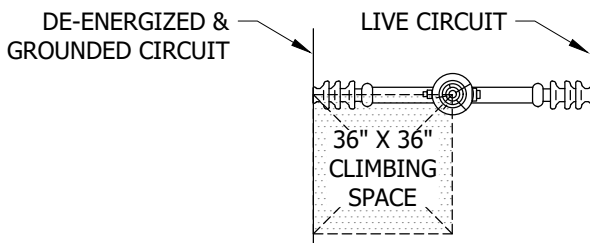

FIGURE 3 (IIIb)
- (b) ONE OR BOTH CIRCUITS ARE DE-ENERGIZED, BOND WIRES AND DE-ENERGIZED CIRCUIT ARE GROUNDED, AND CLIMBING SPACE IS PROVIDED AS SHOWN IN FIGURES 3 & 4.